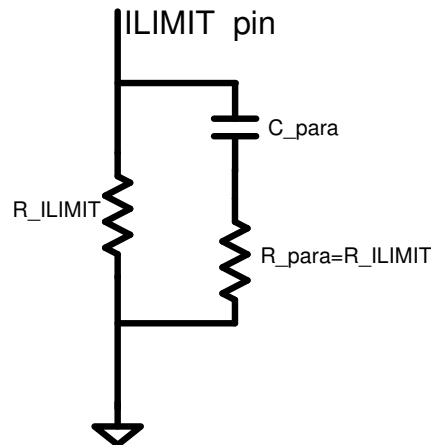

Figure 10-21. RC Network in Parallel with R_{limit}
- In order to meet the MFI OC requirement, an RC network is needed in parallel with R_{limit} resistor as shown in Figure 10-21. Suggest selecting $R_{para} = R_{limit}$, $C_{para} = 100$ nF.